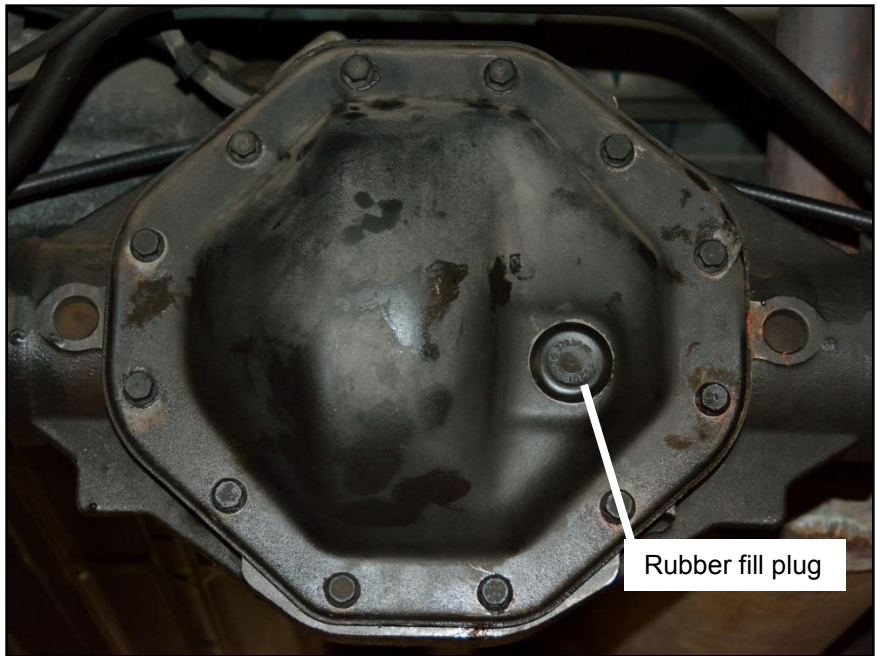

Figure 1
**STEP 3.** The stock fill plug is made out of rubber and it just pops out with a screwdriver (**See Figure 1**).